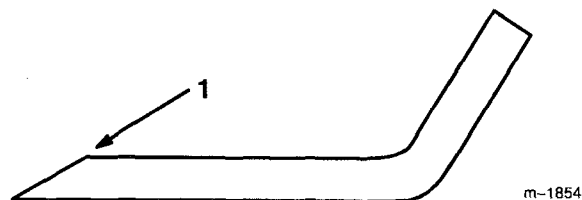

Figure 11
1. Use a file to sharpen the cutting edge at both ends of the blade (Fig. 11). Maintain the original angle. The blade retains its balance if the same amount of material is removed from both cutting edges.